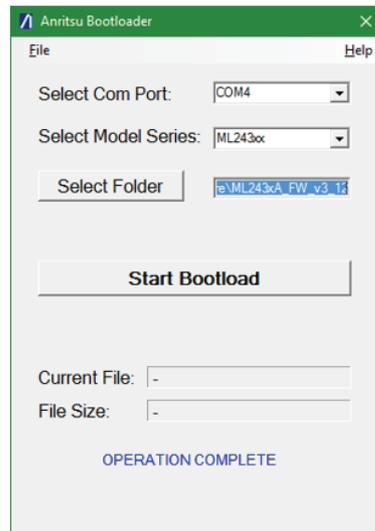

Figure 5-6. Operation Complete
8. When the firmware is complete the power meter front panel will turn on and “OPERATION COMPLETE” will be seen in the Bootloader Application as shown in Figure 5-6.